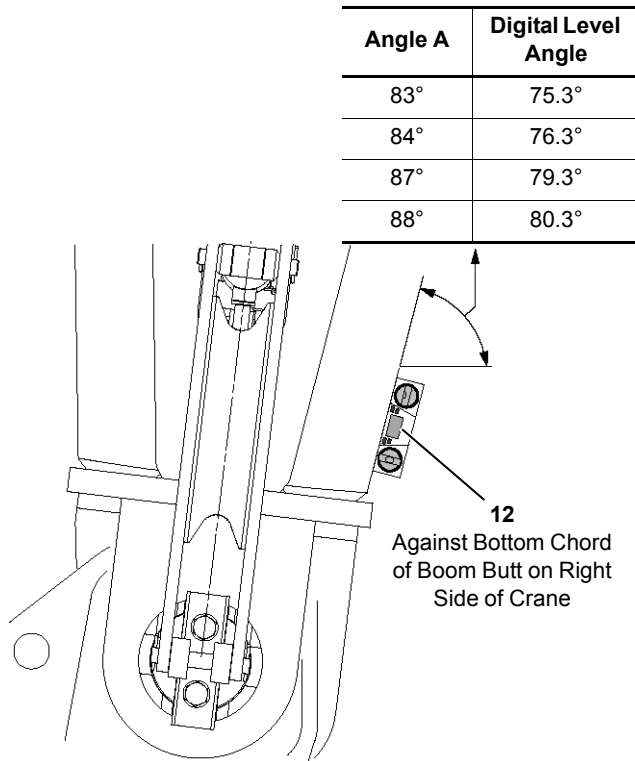

FIGURE 6-3
- Place an accurate digital level (12) on the boom butt as shown in Figure 6-3. The corresponding **Digital Level Angle** should appear on the digital level.